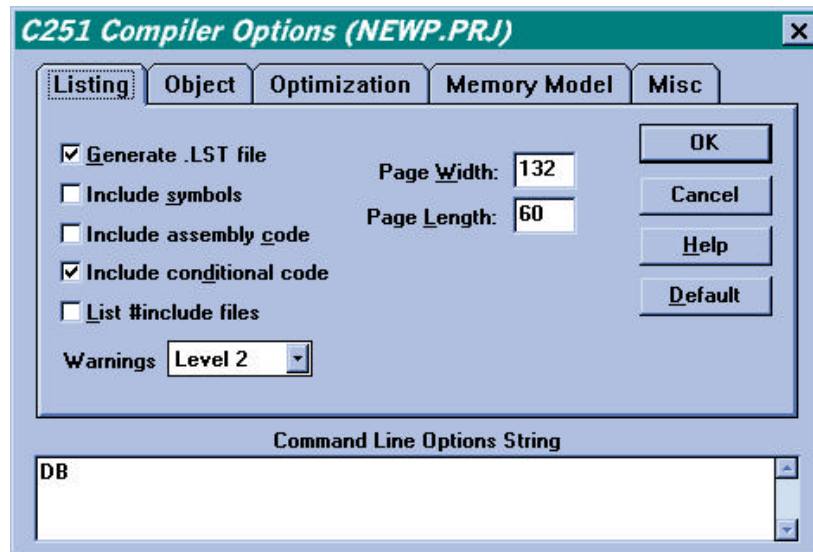

Figure 2
- Make sure the options are set as shown in Figure 2.